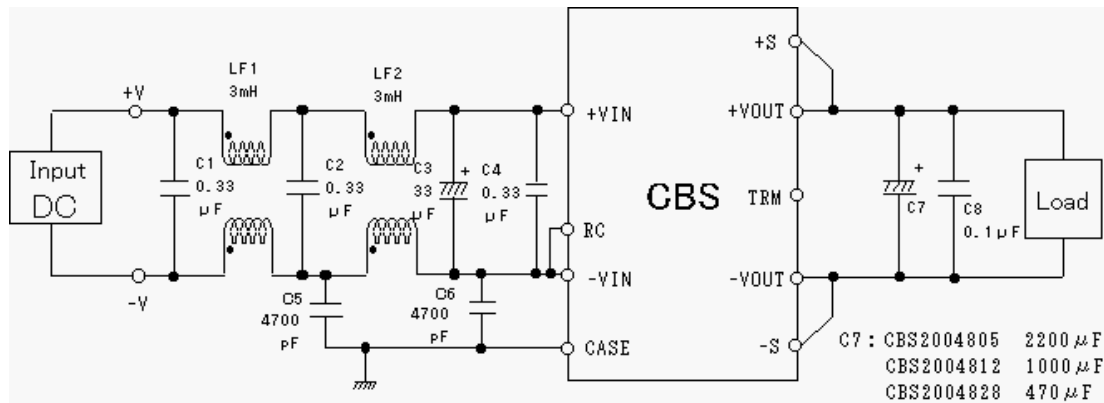

Fig.1 Testing circuitry
- (1) Input : DC48V
- (2) Output : Rated output
- (3) Ambient temp. : 25±10°C
- (4) Testing circuitry : Fig.1